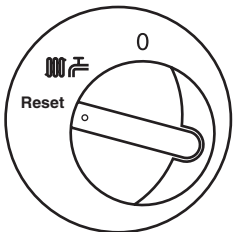

Fig. 3
2. To reset: Turn the selector fully anti-clockwise against the spring pressure to the 'Reset' position for at least two seconds and release (Fig. 3).